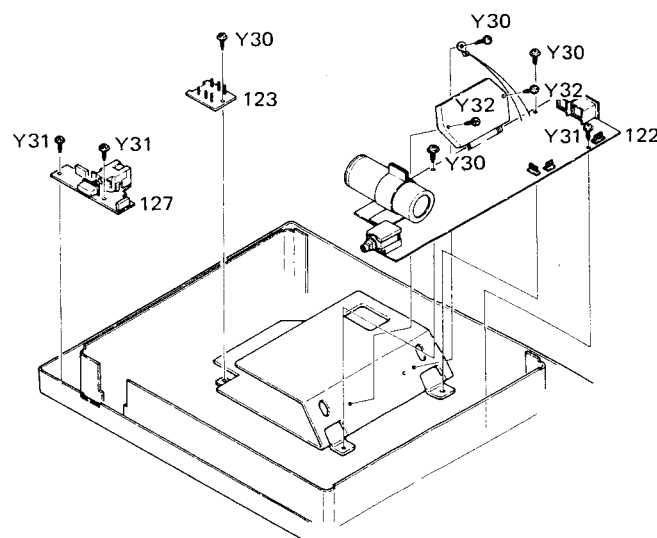

Fig. 8
8. Remove the six screws (Y30 = 3, Y31 = 1 & Y32 = 2), and the power amplifier PCB (122) will come off.
9. Take out the power amplifier connector PCB (123) after removing the screw (Y30). (cf. Fig. 8)
10. Take out the power supply PCB (127) after removing the two screws (Y31). (Fig. 8)